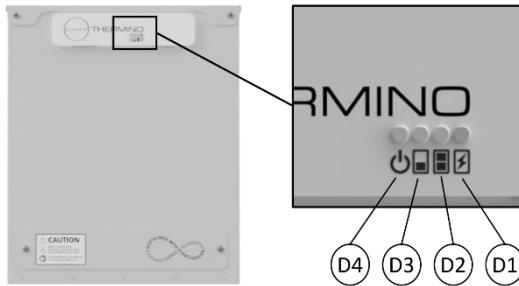

Figure 10 - Thermino xPlus Heat Battery LED operation
6. Check the front of the Heat Battery to ensure that the "power" LED is lit (see Figure 10 & Table 7).
- Battery heating element will engage, observe if the “heating element” LED is lit (see Figure 10 & Table 7).